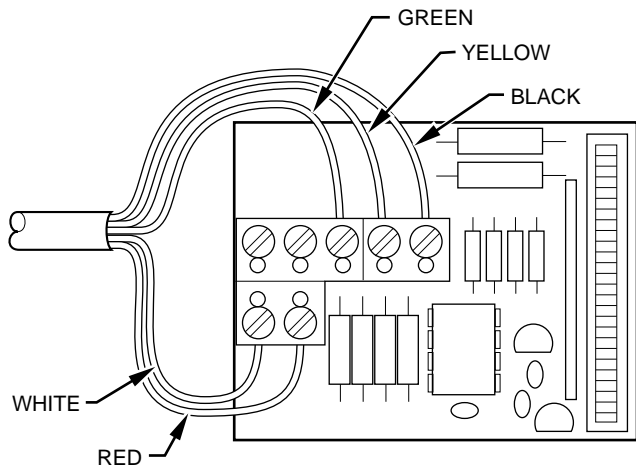

Fig. 5—Smart Sensor Wiring
1. Strip wires from Smart Sensor Power Pack and insert into appropriate terminal connections on smart sensor connector block. (See Fig. 5.)